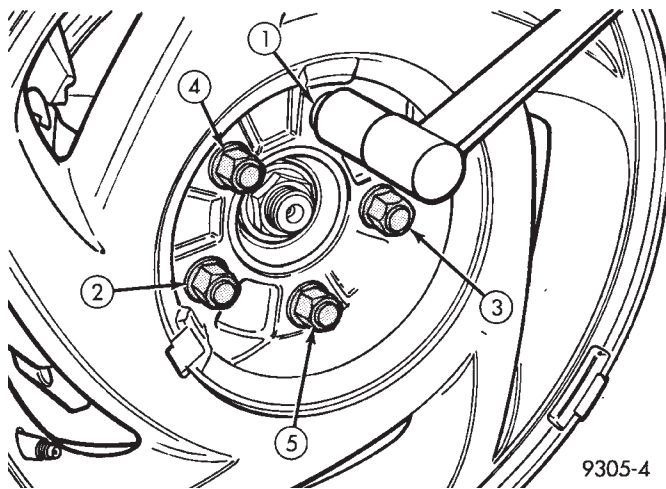

Fig. 4 Tightening Wheel Nuts
- (4) Install brake shoes on support plate. Follow procedure for Installing Brake Shoe Assemblies in this section of the service manual.
- (5) Install rear brake drum onto rear hub.
- (6) Install the wheel and tire assembly. Tighten the wheel mounting stud nuts in proper sequence (Fig. 4) until all nuts are torqued to half specification. Then repeat the tightening sequence to the full specified torque of 129 N•m (95 ft. lbs.).